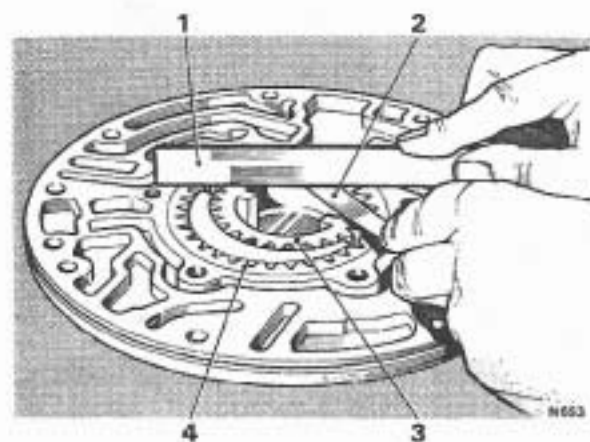

FIG. T228 CHECKING GEAR END CLEARANCE
2. Fit the gears into the pump body then check the end clearance as shown in Figure T228. The clearance should be between 0.0008 in. and 0.0035 in. (0.020 mm. and 0.099 mm.).